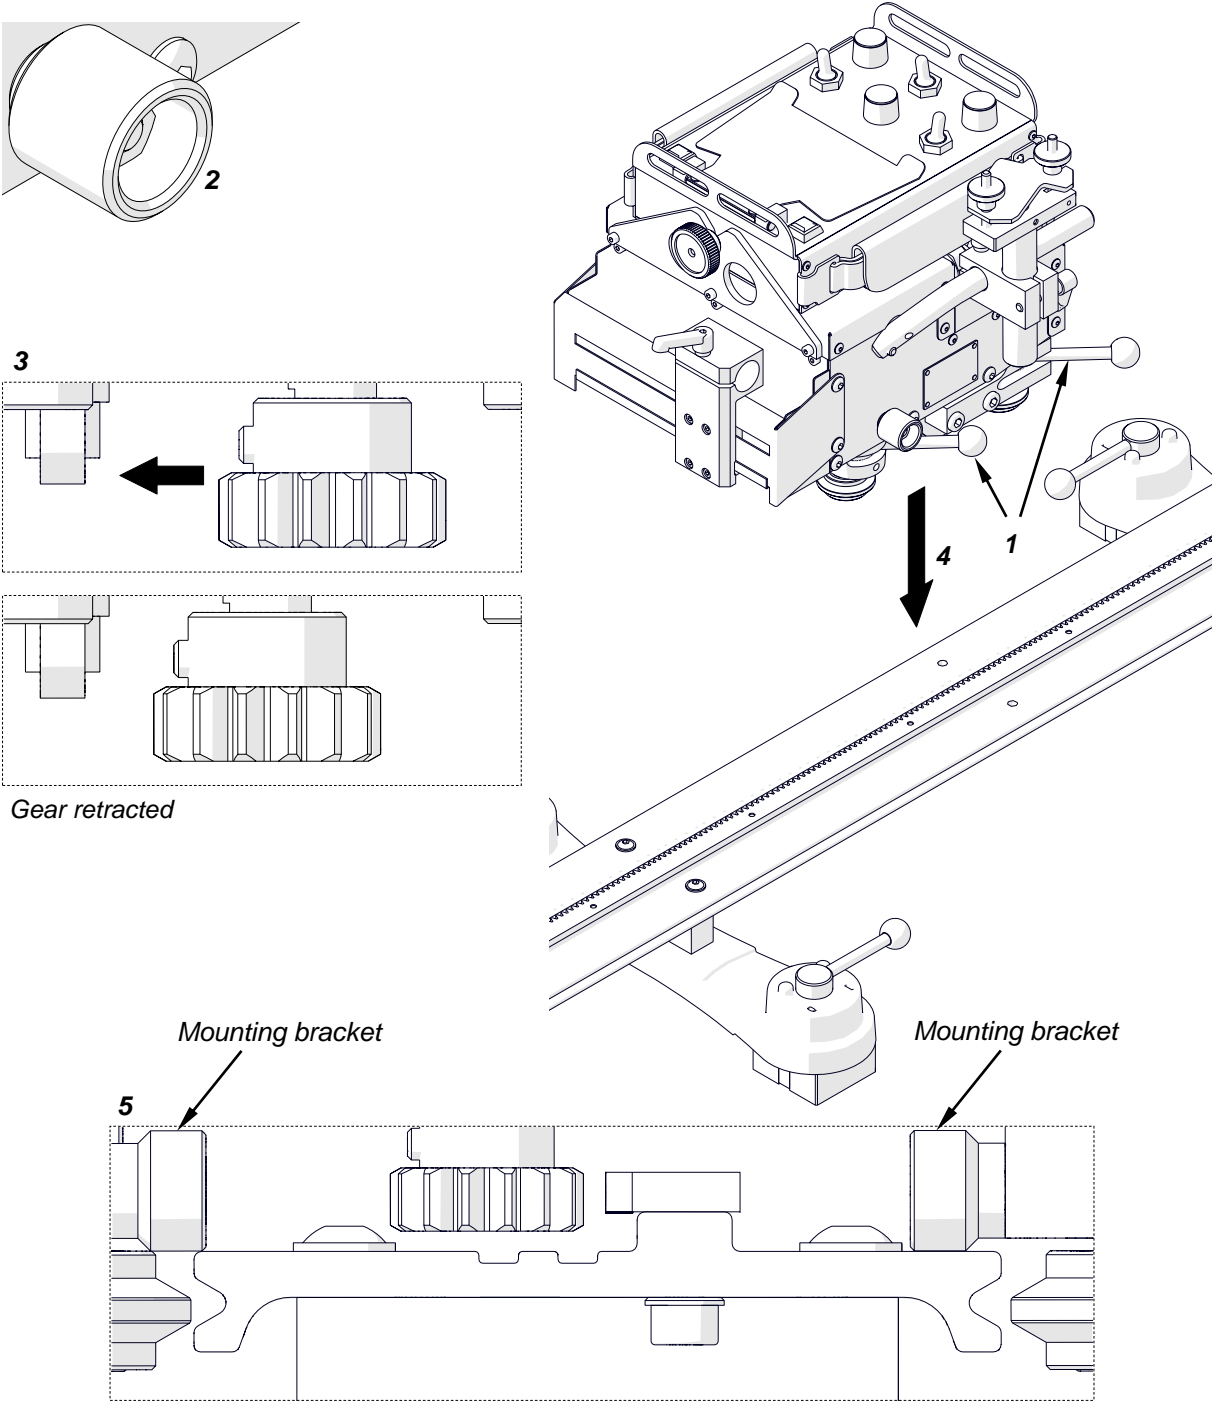

Fig. 6. Putting the carriage on a straight track
Set the power switch, arc ignition switch, oscillation switch, and direction switch to 'O'. Next, set the levers to OFF (1, Fig. 6), and then loosen the knob (2) fully to retract the gear (3). Then, put the carriage so that the mounting brackets are on the rail (4, 5).